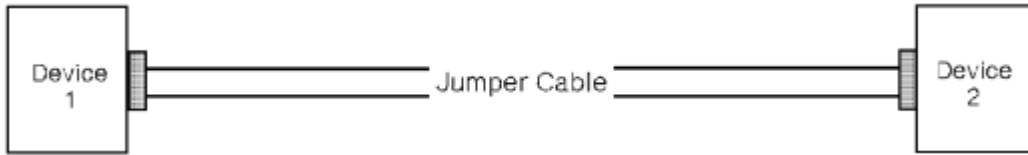

Figure 35. Link configuration 1 consisting of 1 jumper cable between 2 devices
- One jumper cable between 2 devices (Figure 35 on page 20)